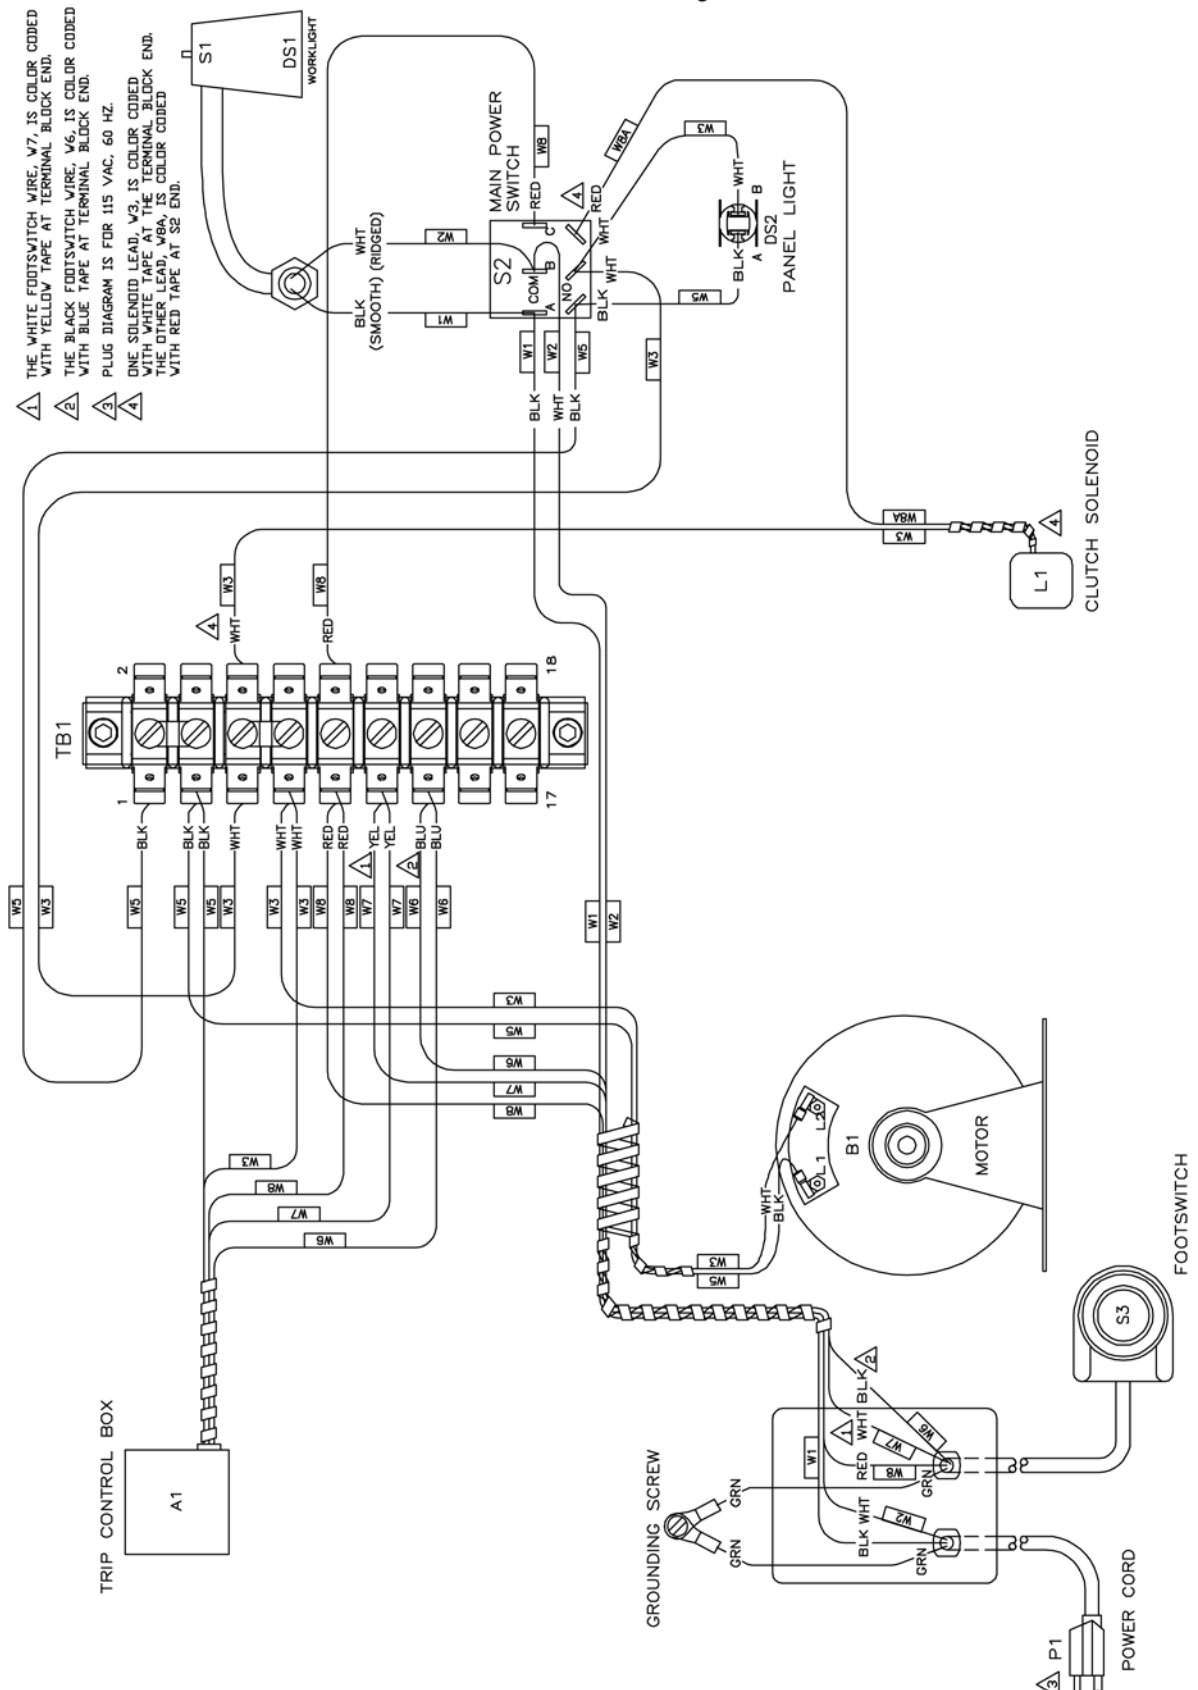

Figure 5
2.4. Electrical System (Figure 5 and Figure 6)
Basic machine wiring is shown in Figure 5 and the electrical schematic is shown in Figure 6.
If panel light is illuminated, check for loose wiring connections at switch, barrier strip, and motor.	Connect wiring as required. Refer to Figure 5.
Defective wiring between switch and motor.	Replace wiring as required. Refer to Figure 5.
Check for loose wiring connections at barrier strip.	Connect wiring as required. Refer to Figure 5.